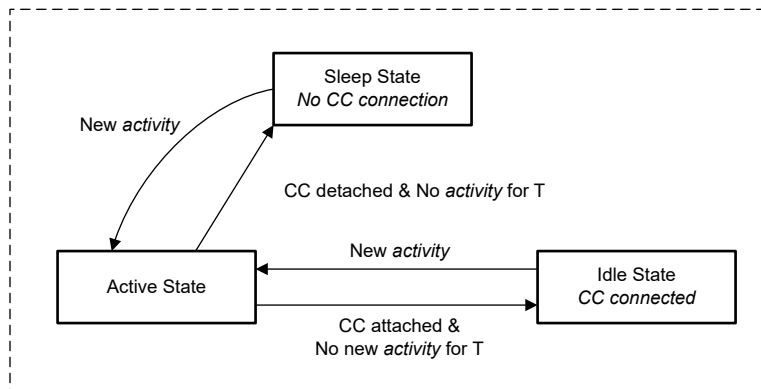

Figure 8-37. Flow Diagram For Power States
The TPS26742-Q1 operates in one of four different power states: Active, Idle, Sleep or Shutdown. The functionality available in each state is summarized in Table 8-9. The device automatically transitions between the power states based on the circuits that are active and required, see Figure 8-37. In the Sleep State the TPS26742-Q1 detects a Type-C connection or other activity that requires moving to the Active state (such as liquid detection actions). Transitioning between the Active mode to the Idle mode requires a period of time (T) without any of the following activity: